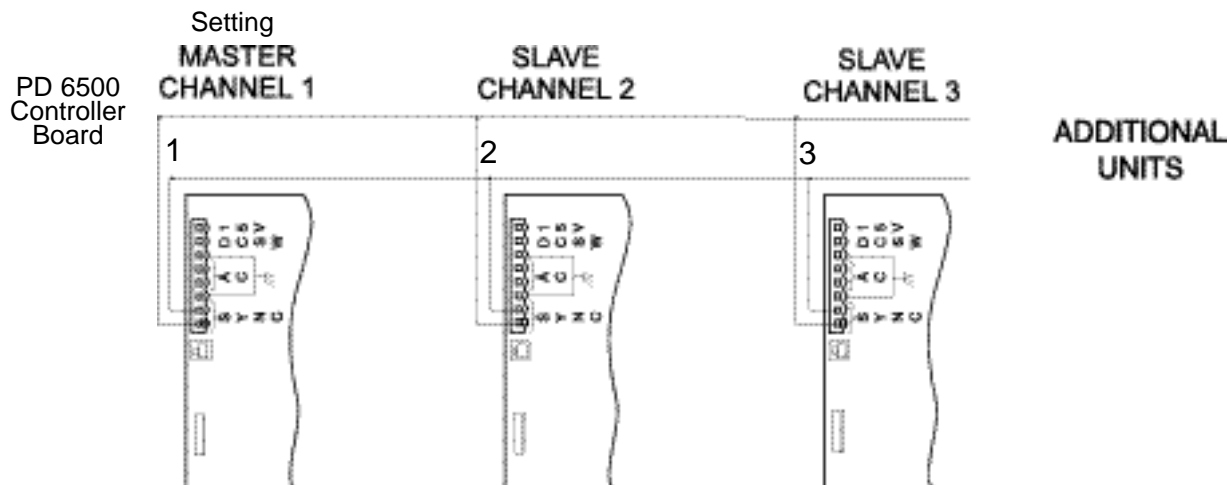

Figure 11-2
4. Use synchronization wire (18 to 24-gauge, 2 conductor) between units; connect as shown. (See Figure 11-2.)